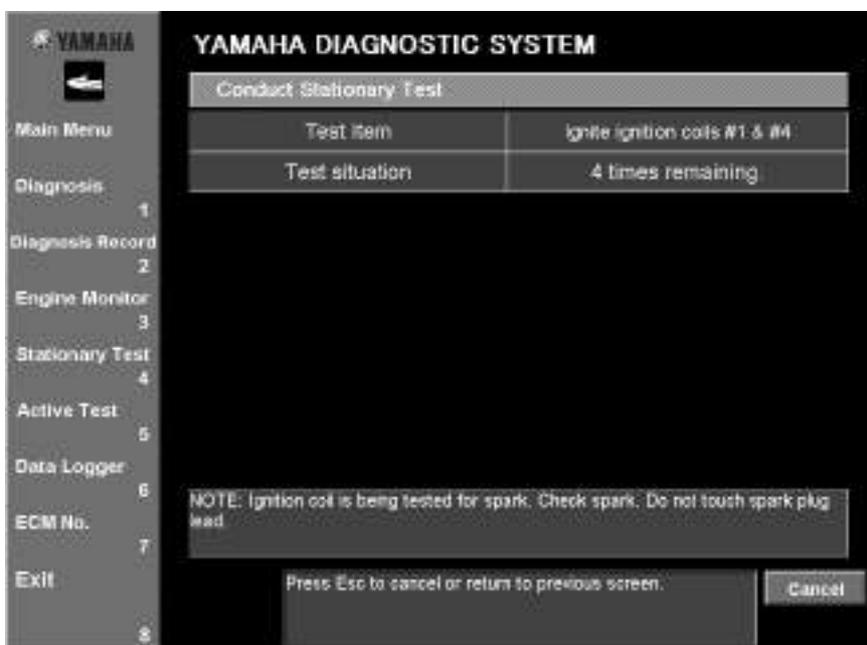

Fig. 43
6. While checking the information that appears in the **Test situation** column, follow the test instructions in the messages that are displayed. (See fig. 43.)
7. To stop the stationary test, click the **Cancel** button. (See fig. 43.)